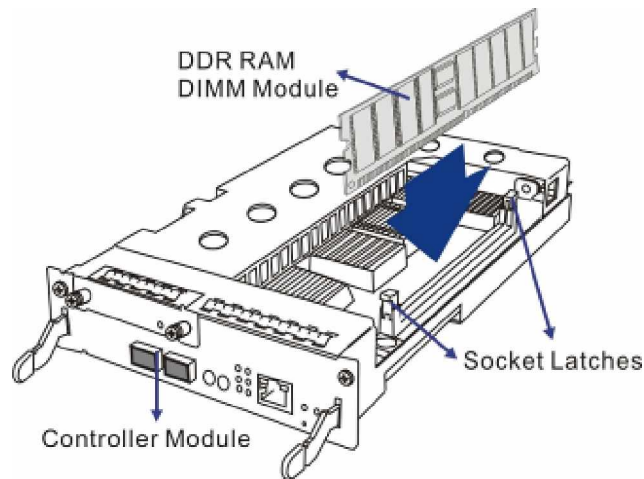

Figure 5-8: Installing the DDR RAM DIMM Module
Step 3. Insert the new DDR RAM DIMM module into the DIMM socket. Align the new module to the DDR RAM DIMM socket, and then gently push the DIMM module into the socket. The latches on the sides of the socket will close automatically and secure the DDR RAM DIMM module into the socket. (See **Figure 5-8**)